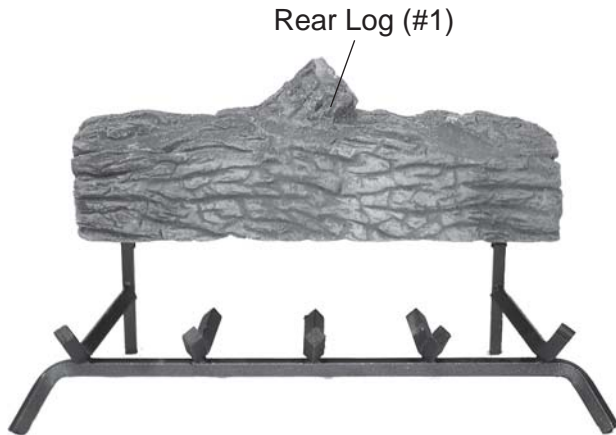

Figure 19 - Centering Rear Log (#1) on Grate Bars
2. Center rear log #1 on grate bars and flush with rear of the grate. *See Figure 19.*